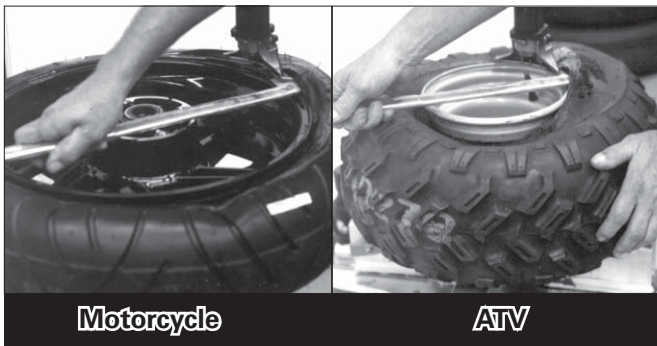

Figure 10 - Lift Bead Over Demount Tool
11. Rotate the bead lifting tool down towards the wheel to lift the tire bead up and over the knob portion of the demount tool. The tool may be removed if desired (Figure 10).